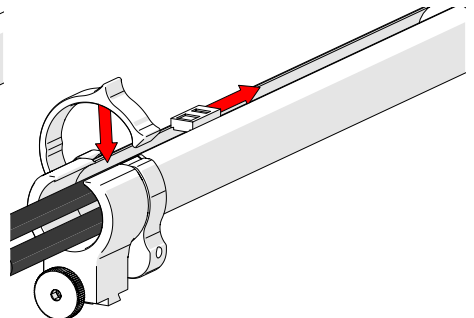

Fig. 55 - Zip to close
2. Close the clamp and zip the tube closed (Fig. 55).